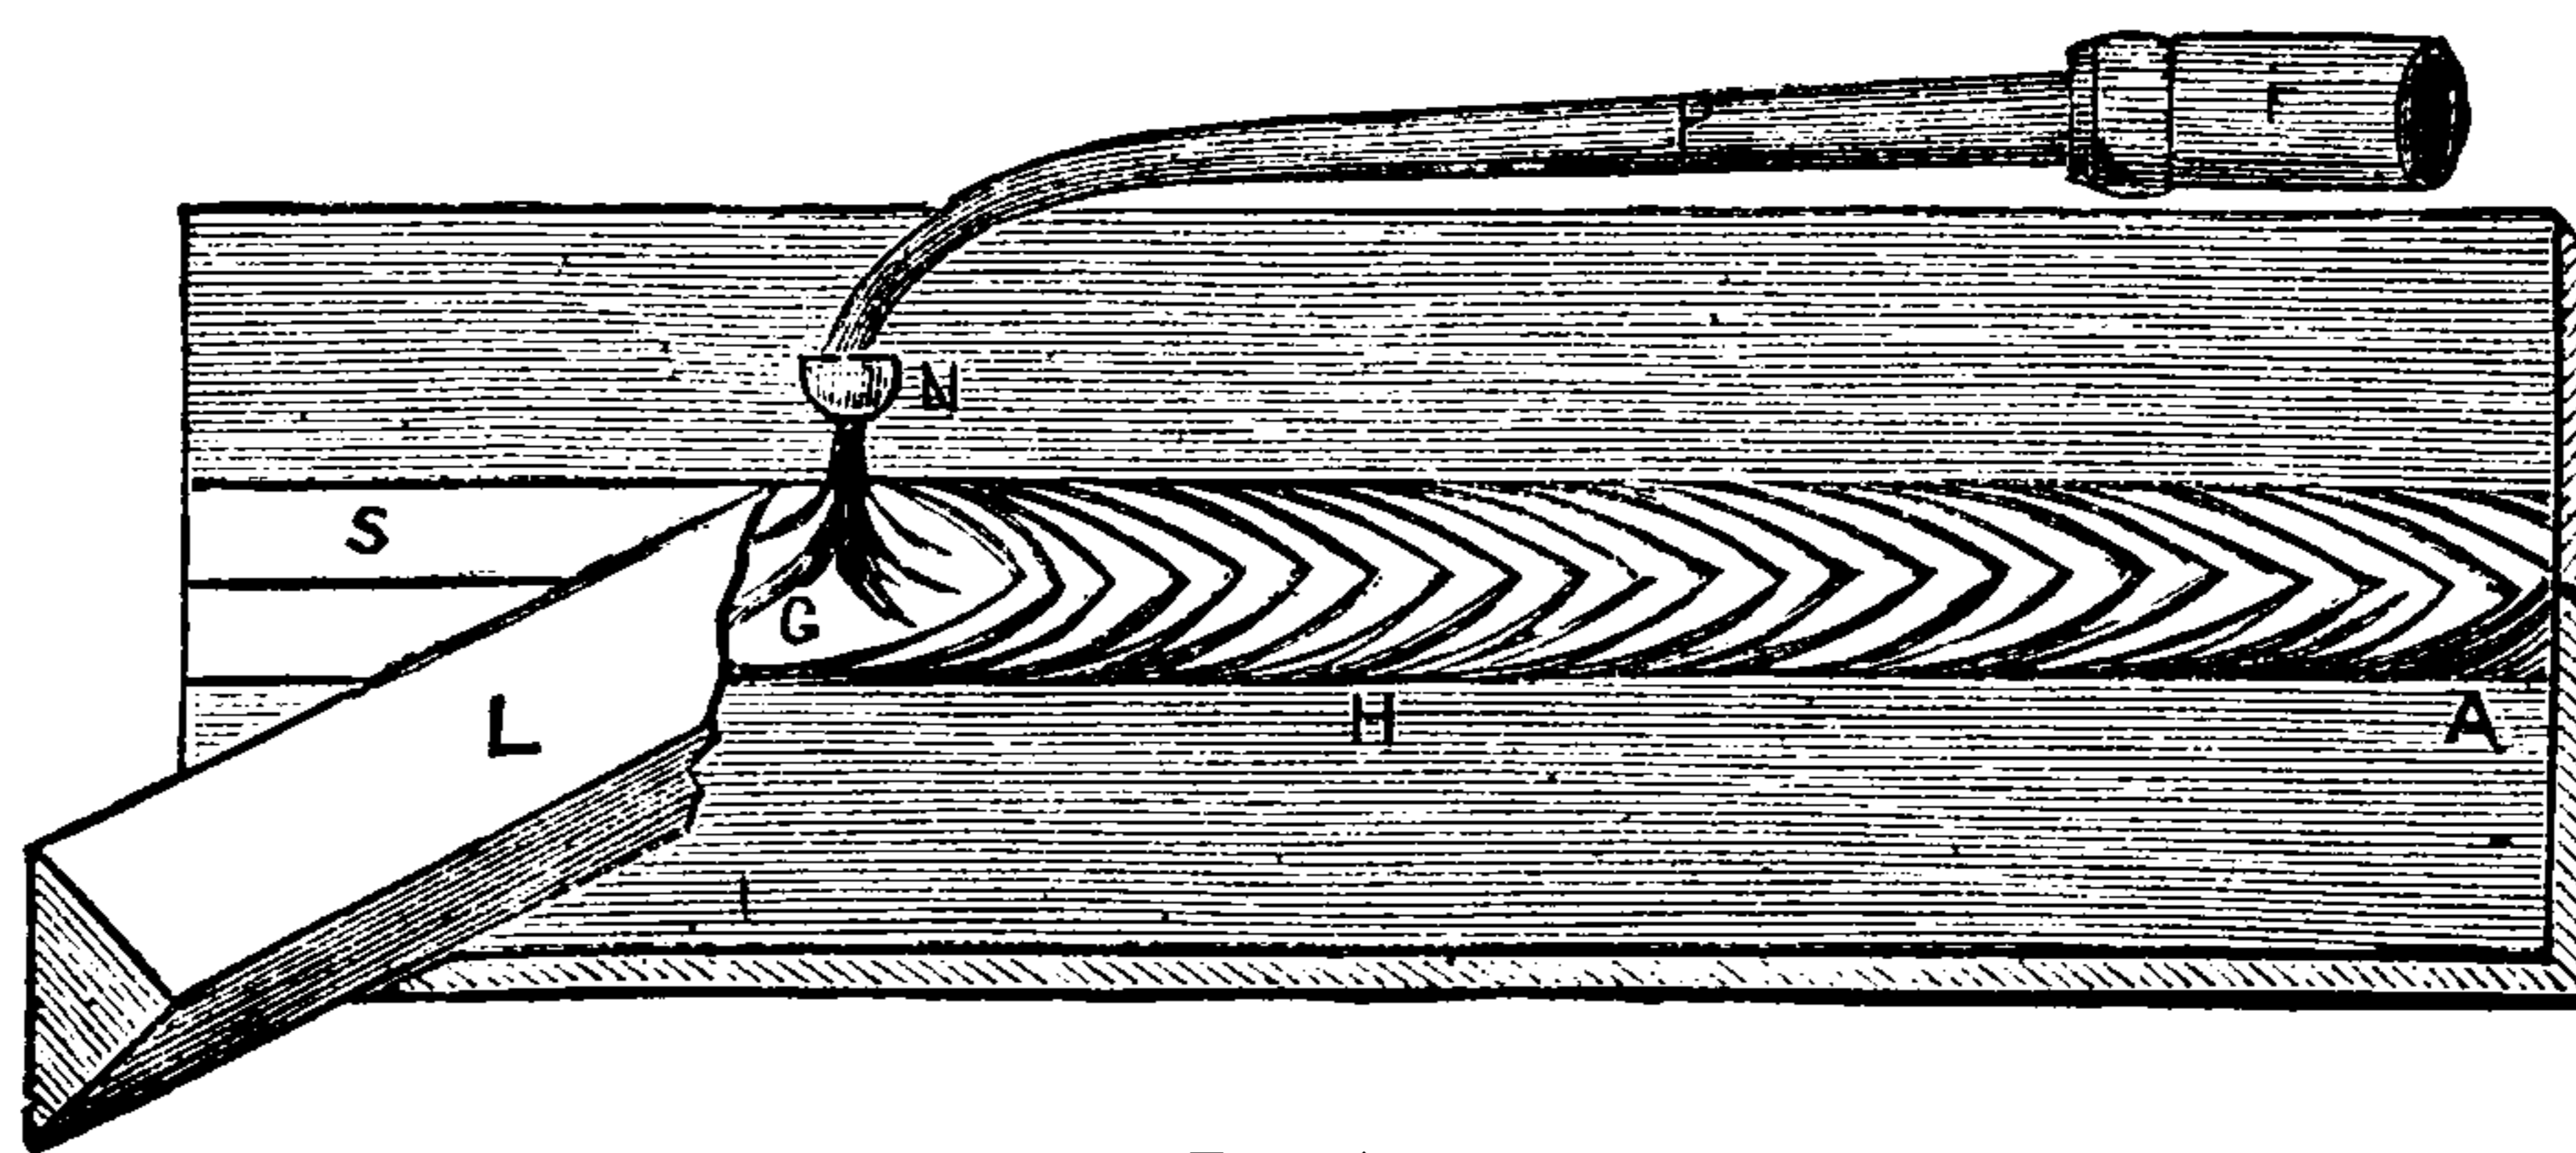
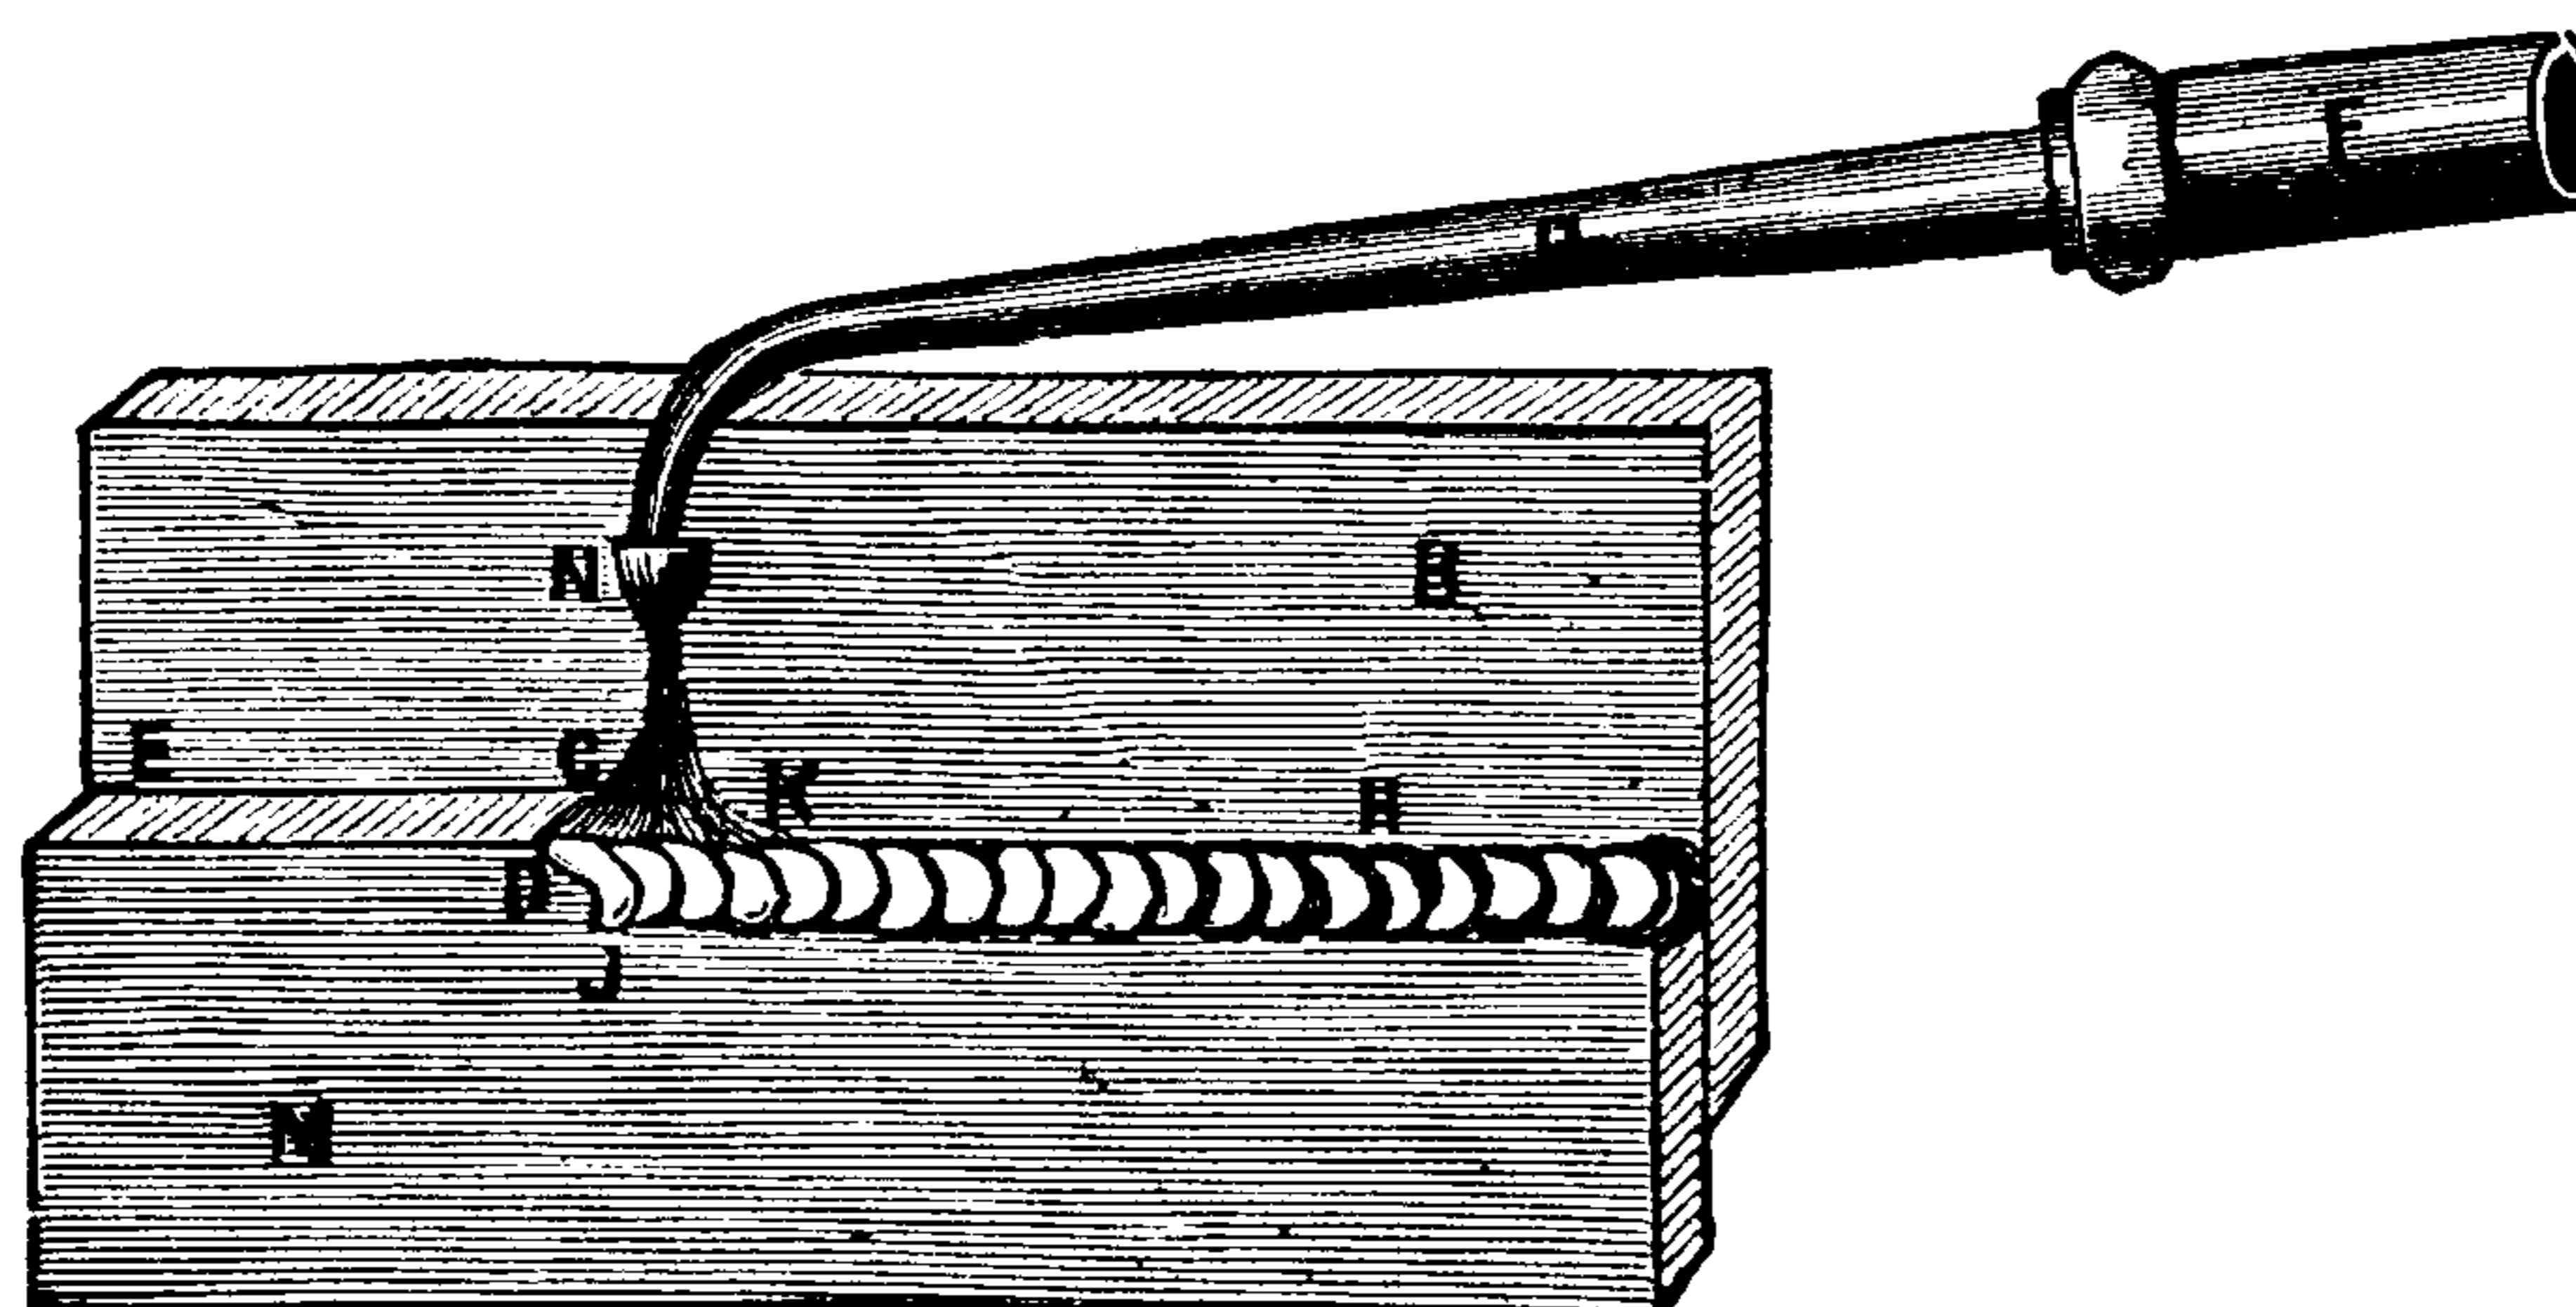
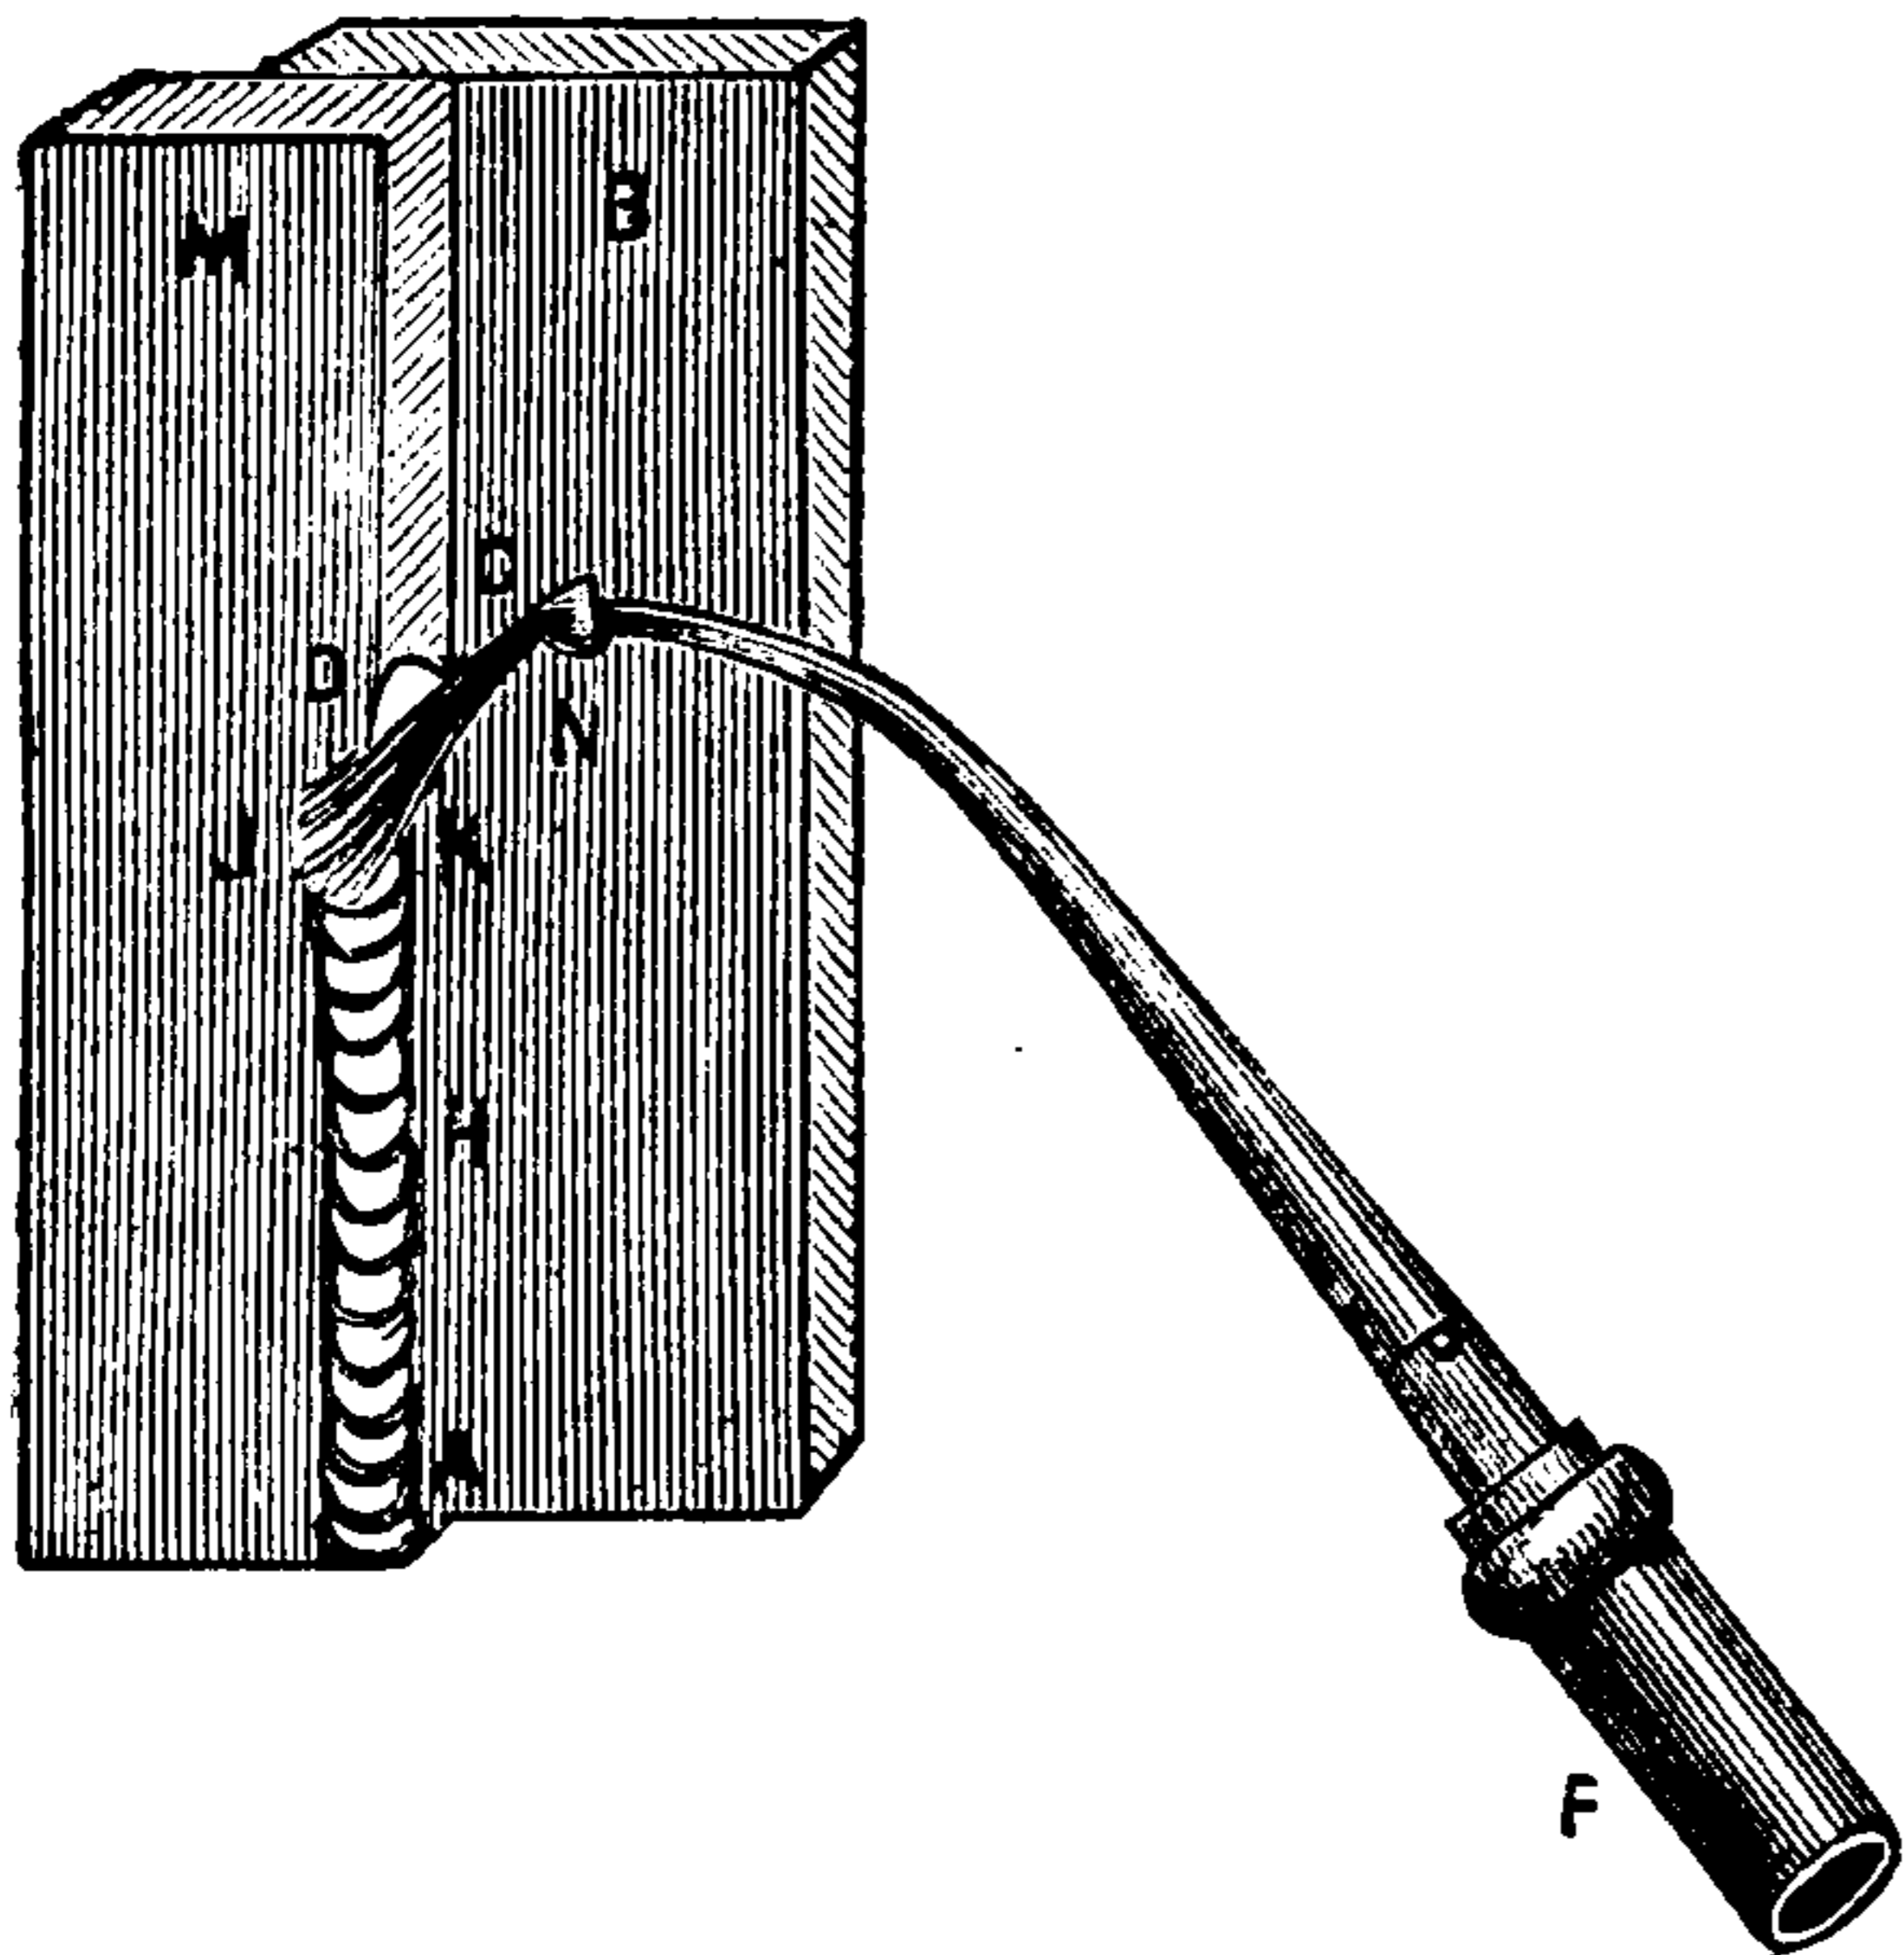

FIG. 75.
FIG. 80
FIG. 81.
NOTICE.—It is important that you hold the blow pipe straight and in a line with the shaving, and nearly level over that part which you have burnt, as illustrated in Fig. 75. To put the pipe before that part which you have burnt is burning back-handed.
N.B.—The stick metal L, Fig. 75, is shown leaned rather too much to the left, but its true position will be acquired by practice. You must continue to practice this class of burning, occasionally trying the flat and then the lapped until you feel yourself thoroughly competent to do the work with freeness and ease, and until you can execute it so that it shall, when finished, have the appearance of that shown at Fig. 75, which is taken from a photograph of some work done by myself expressly for this work.
upright work. I have before said that it is necessary to hold the pipe in a line with the work, as at Fig. 75. The pipe should be held as shown at Fig. 80, when at work on side or horizontal burning. And if you turn the drawing
Here the pipe in Fig. 80 is in a line with the seam, it is also held near about level. Now refer to Fig. 81; let M be the bottom lead, and B the top.
Fig. 80 is some horizontal burning and a photographic specimen of lead burning done by the author at a contest of plumber's work at South Kensington Museum on the first of March, 1882, in the presence of about a hundred plumbers and architects.
fix the bottom after the sides, so that the burning may be done as shown at Fig 80. The sides are sometimes hung up with straps, burned on as shown at B B; then the tacks nailed to the cross-rail, as also shown. These tacks should not be more than 15in. apart; the top of the sides should be brought over the top of the crown tree, and sufficiently far over the lowest side to allow the rain-water to fall into a gutter; the side is then well nailed to the crown tree. [A further explanation as to the method of fixing the sides will be given later on.] Next the top is put on and burned to the sides, as illustrated upon the crown tree at D D. After this the top joists are put on and the top straps C C, which